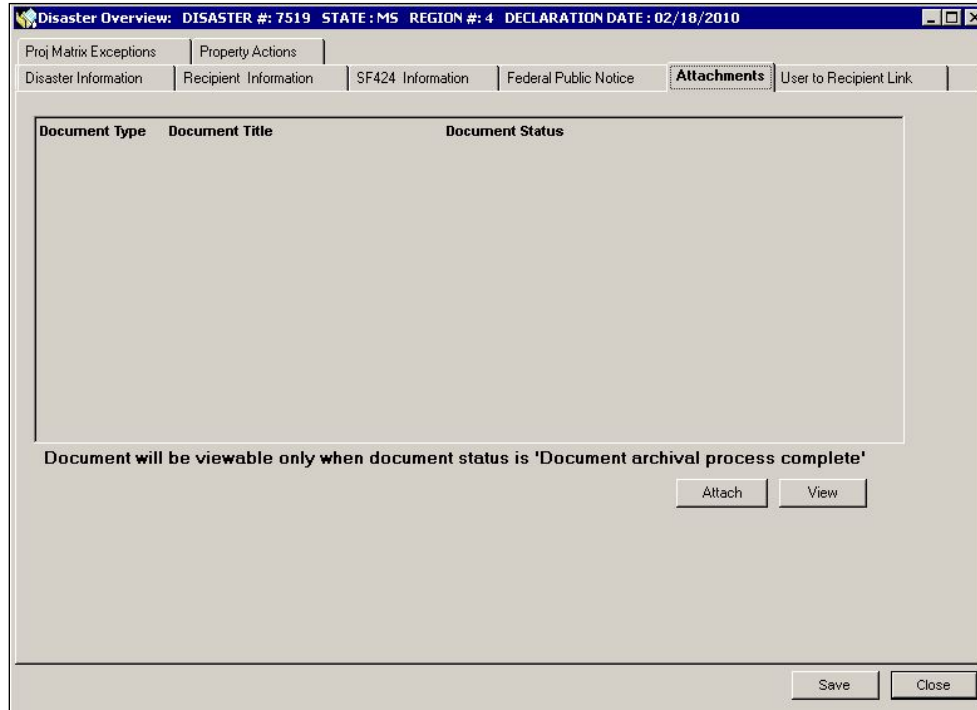

Figure A-2: Attachments Tab
1. Click the **Attachments** tab (Figure A-2).